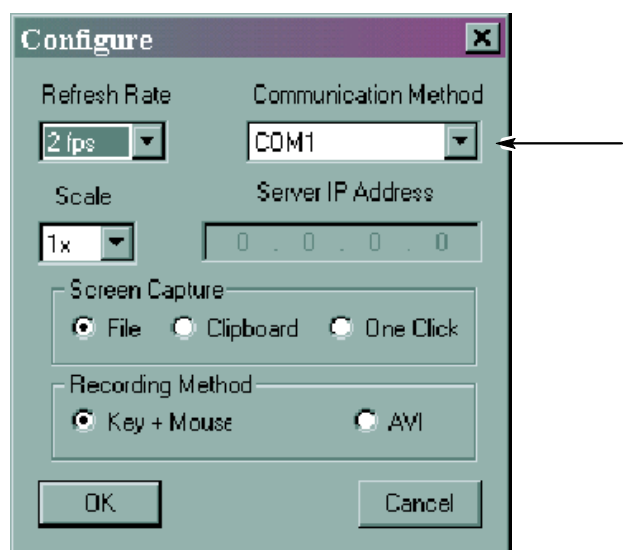

Figure 3-5: Configuring the connection
2. To configure the connection settings, click the wrench icon (). This displays the Configure window shown in Figure 3-5.